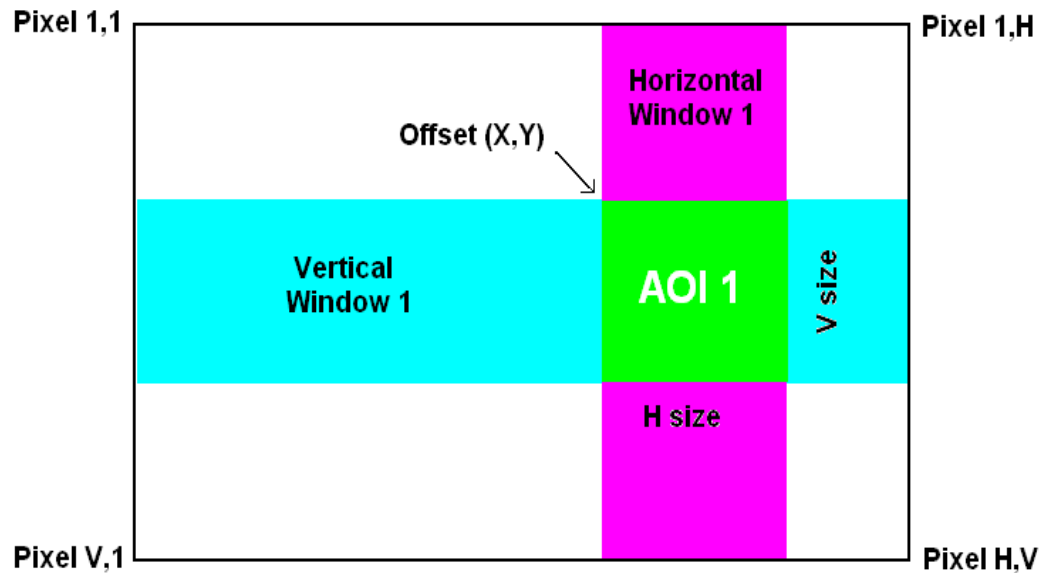

Figure 2.1: Horizontal and vertical window positioning.
The starting and ending point for each AOI can be set independently in horizontal direction (Horizontal Window) and vertical direction (Vertical Window), by setting the window (H & V) offset and (H & V) size – Figure 2.1. The minimum window size is 8 (H) x 2 (V) pixel/line. The maximum horizontal window size (H) and the vertical window size (V) are determined by image full resolution (C4080: 4000 x 3000 and C2880: 2832 x 2128).